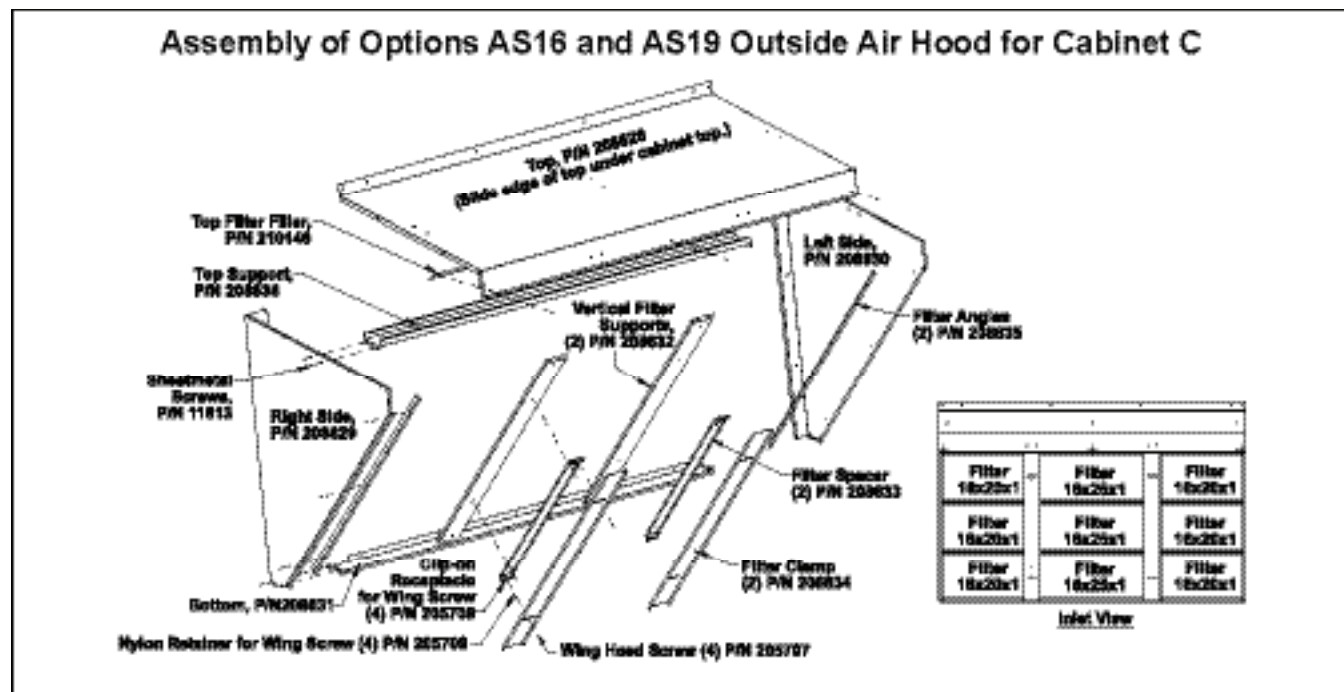
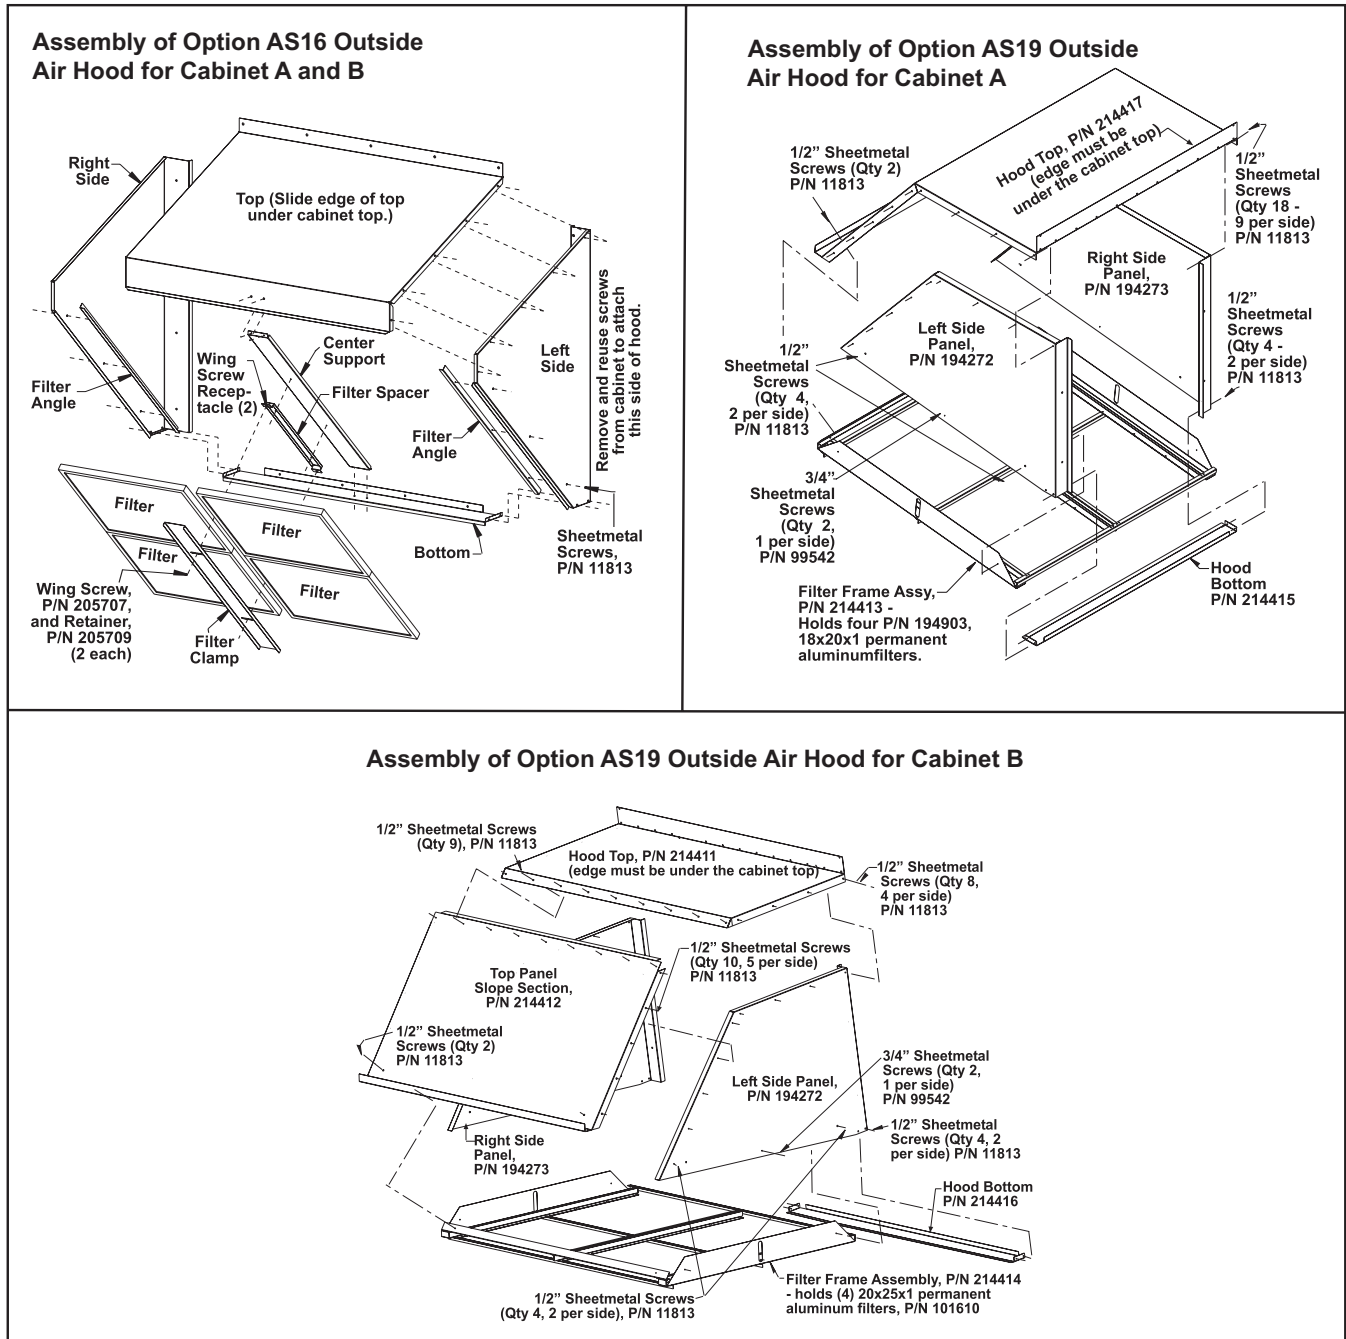

Figure 12. Outside Air Hood Assembly—Cabinet C (Refer to Table 24)
Figure 13. Outside Air Hood Assemblies—Cabinets A and B (Refer to Table 24)
- Outside air hood assemblies are shown in Figure 12 and Figure 13